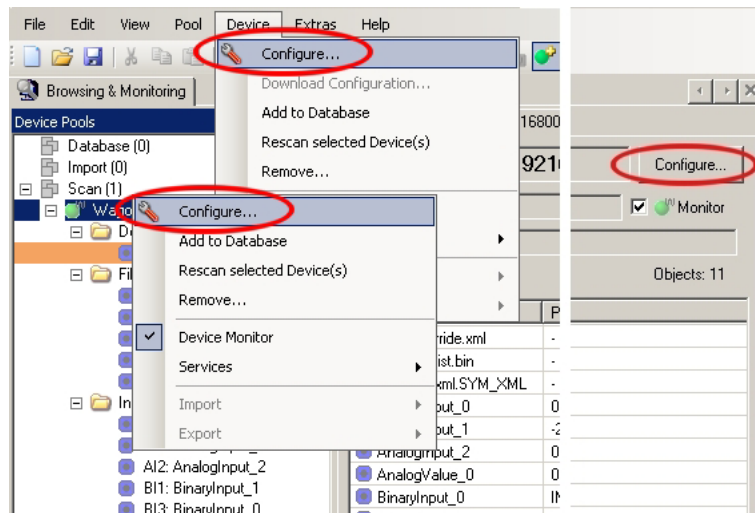

Fig. 4-3: Three possibilities for configuring a device
3. Choose **Configure** in the context menu of the device to configure the device. As an alternative, choose **Device > Configure** in the main menu or use the button **[Configure]** to the right in the window (see Fig. 4-3).